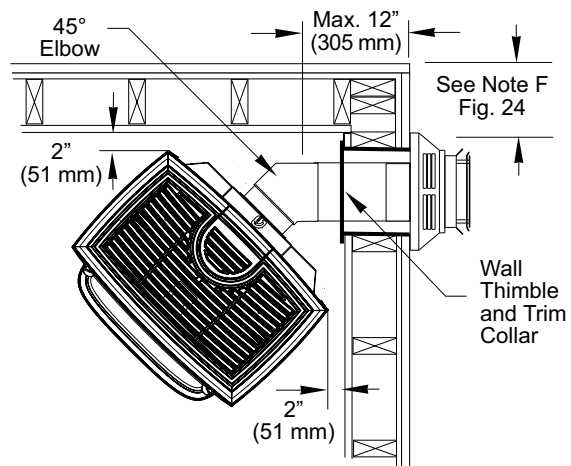

Figure 4.16.
- One 45° Elbow may be used for a corner installation as shown in fig. 4.16.